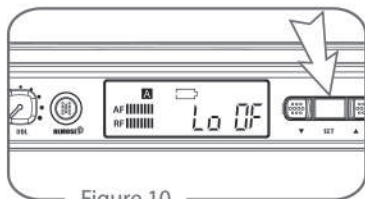

Figure 10
- (1) Press "Set" button ⑤ for 3 seconds to enter setting window
- (2) Press "Set" again until the Lock setting window shows. (Figure 10)
- (3) Press "▲Up ③" or "▼Down ④" button to select the mode between "Lock On" and "Lock off".
- (4) After setting, press "Set" again to save the settings.